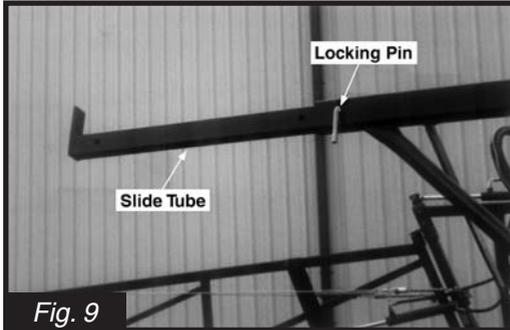

Fig. 9
2. Remove spring clip from lock pin (Fig. 9).
4. Move slide tube (Fig. 9) toward center until the inner set of holes line up.